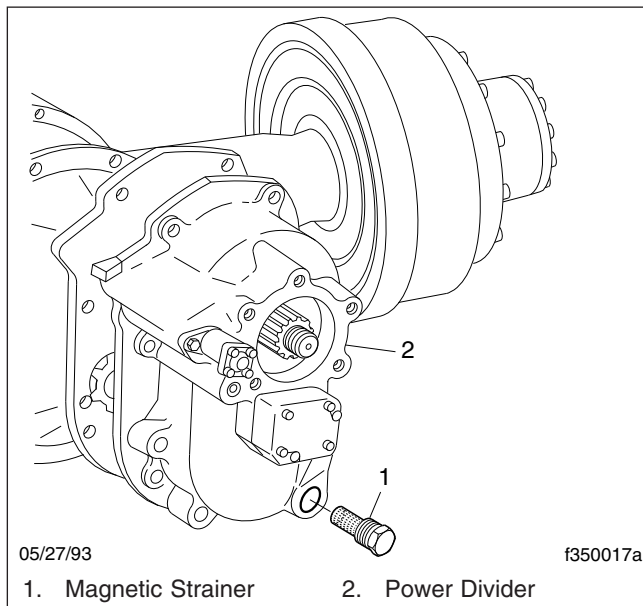

Fig. 5, Dana Spicer Tandem-Drive Axle Magnetic Strainer
4. At each axle oil change, remove and clean the magnetic strainer, if equipped, as follows; see Fig. 5.